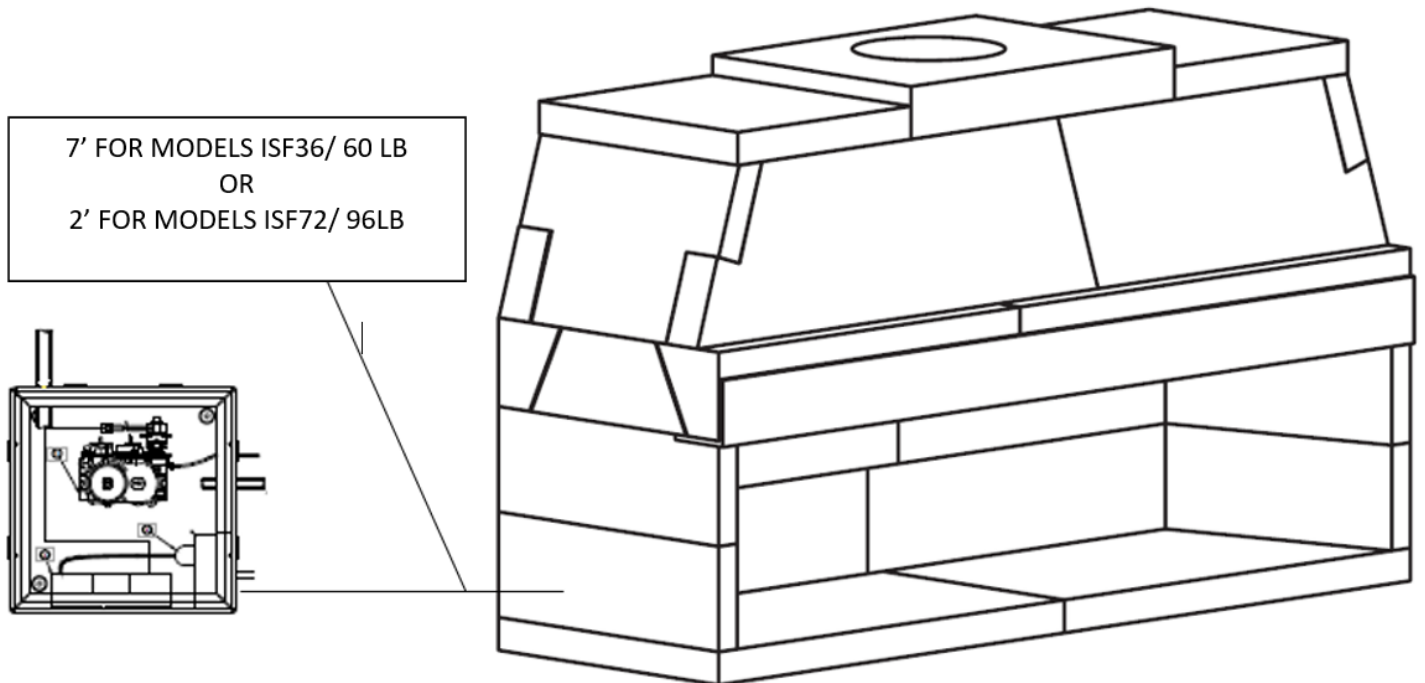

FIGURE 55
- 1) The valve control box comes with an 110" pilot assembly lead; therefore, the box must be mounted within 7' of the fireplace for models ISF36/60LB and within 2' for models ISF72/96LB. **(Figure 55)**